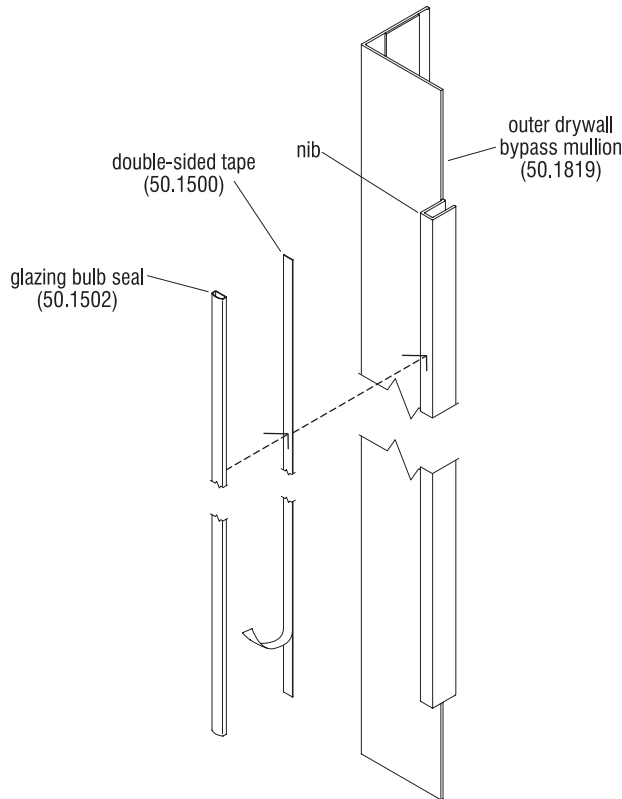

Figure 5
8. Use the supplied Silane Glass Treatment AP115 to clean the surface of the nib, of the notched outer drywall bypass mullion (50.1819). This must be done prior to applying double-sided tape in the next step (Figure 5).
9. Locate the roll of double-sided tape (50.1500). Beginning at the top of the outer drywall bypass mullion, carefully adhere the double-sided tape to the cleaned face of the nib, working down and pressing firmly. Cut the tape at the bottom of the nib (Figure 5).
10. With tape applied, dry fit the glazing bulb seal (50.1502) and cut to length. Clean the flat side of the glazing bulb seal with Silane Glass Treatment AP115, then remove exposed release backing from installed tape and attach the glazing bulb seal to nib face (Figure 5).